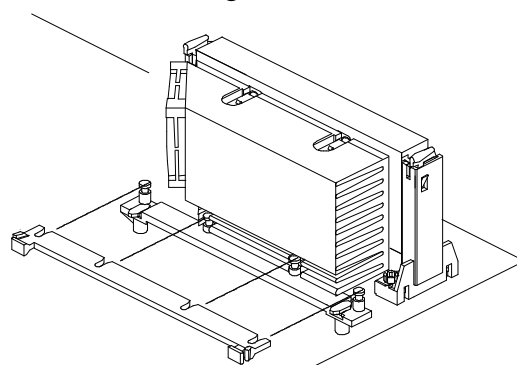

Figure 2-8
4. Insert the Pentium II into the RM firmly (Please refer to "Install Pentium II processor" section), Slide the Heat Sink Top Bar (HSSTOP) on the supports forward to clip onto the HSSBASE through the fins of Heat Sink. (Refer to Figure 2-8)